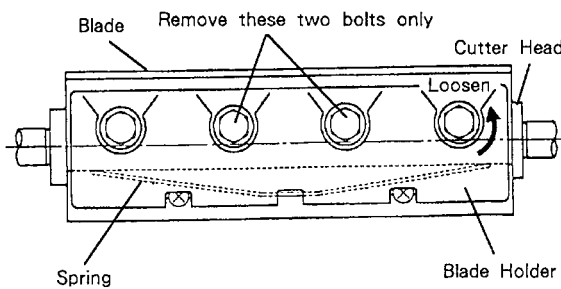

Fig. 12
- (3) Open the Nut Cover on the side of the Jointer Table, turn the Knob to bring the four bolts on the Jointer Blade Holder to the upper position, and engage the Jointer Cutter Head Clamp to secure the Cutter Head in position (Fig. 12).
- (4) Remove the two inner bolts with the provided Box Spanner (Fig. 12).
- (5) Loosen the two outer bolts by giving them about a 1/4 turn from a fully tightened position with the Box Spanner.